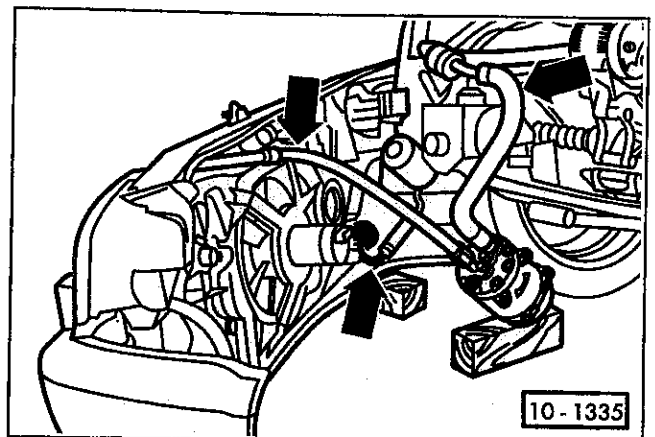

Fig. 10. A/C compressor shown removed from engine and supported. Do not stress or kink refrigerant lines (arrows).
12. Working under the car, disconnect the drive axle inner constant velocity (CV) joints from the transmission drive flanges, as described in **40 Front Suspension and Drive Axles**. Suspend the axles from the body with stiff wire to avoid damaging the CV joints.
15. On cars with air conditioning, remove the A/C compressor from the engine without disconnecting any refrigerant lines. Support the compressor so that no lines are stressed. See Fig. 10.